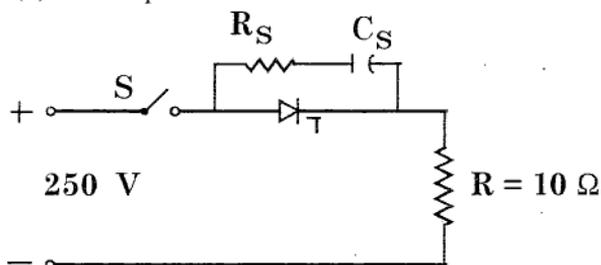

Fig. 2(a)
- (a) For the circuit shown in fig 2(a) the operating frequency is 2 kHz and the required dv/dt is $100V/\mu$ sec. If the discharge current be limited to 100A, calculate